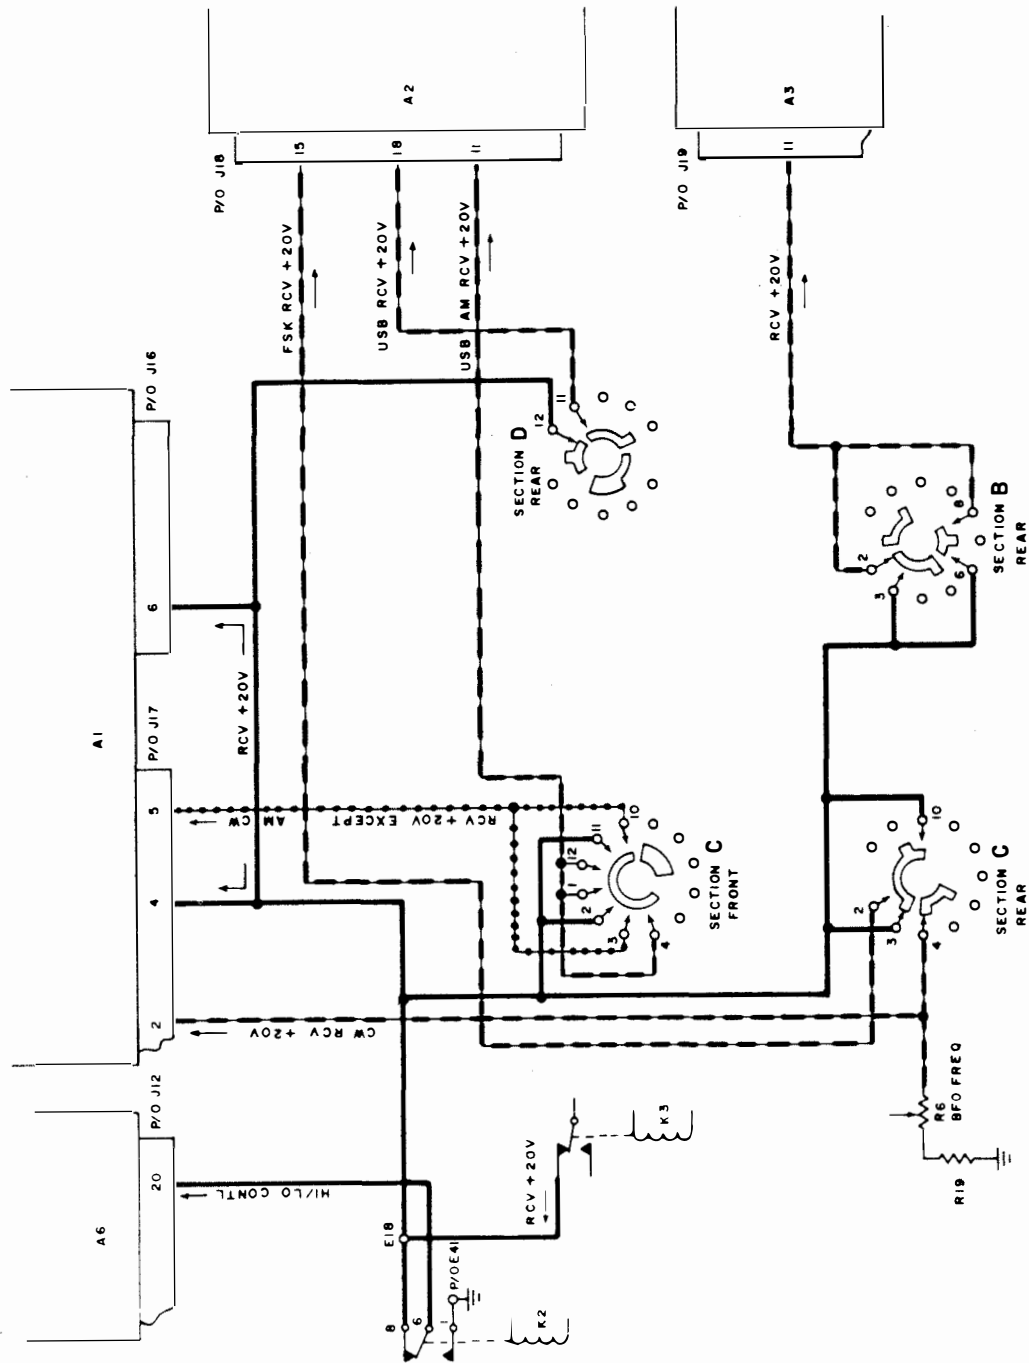

FIGURE 7
7. Using a PURPLE pencil or fine point felt tip pen and Figure 7, color code the RECEIVE +20 VDC supply.
8. Using a PURPLE pencil or fine point felt tip pen and Figure 7, color code the Receive +20 VDC supply.